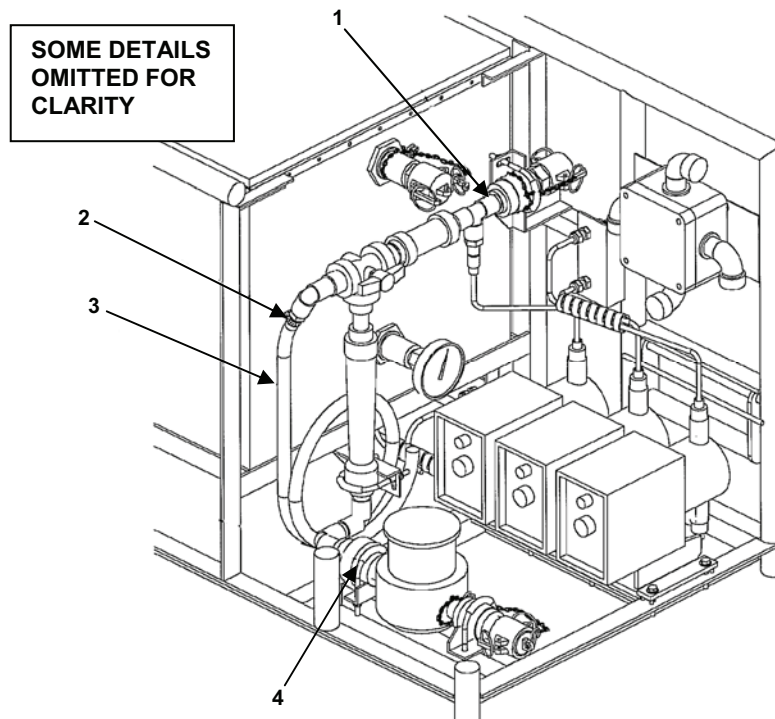

Figure 1. Product Water Sampling Hose.
2. Remove sampling hose (Figure 1, item 3) by loosening hose clamp (Figure 1, item 2).
3. Note the location of product outlet spool piece (Figure 1, item 1) and product inlet spool piece (Figure 1, item 4).